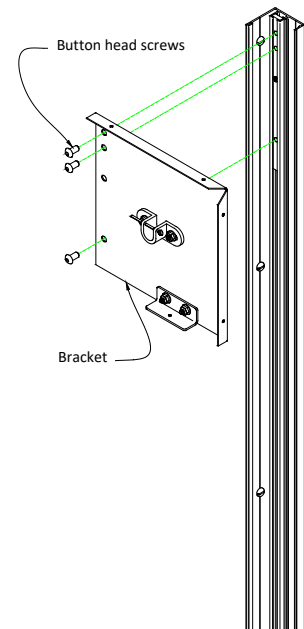

Figure 3
Step 4: Install brackets; refer to Figure 3. Two brackets are supplied with each unit, one adjuster and one operator. The operator bracket will have one of the following attached at the center: cast iron U-shaped lug with cotter pin (push-up), gearbox with extended eye (hand crank) or flange bearing (motor). The adjuster bracket will have a tubular cast iron lug mounted at center. The brackets are oriented such that the mounting holes line up with those in the bracket mounting flat, clip angle toward bottom and bent returns toward opening. Three 5/16-18 x 5/8” button head socket cap screws are used to attach brackets to bracket mounting flats as shown in Figure 3.